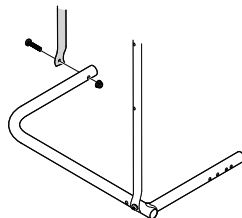

Figure 4
3. Align second upright tube to corner tube and secure with one pan head screw and one hex nut as shown in Figure 4.